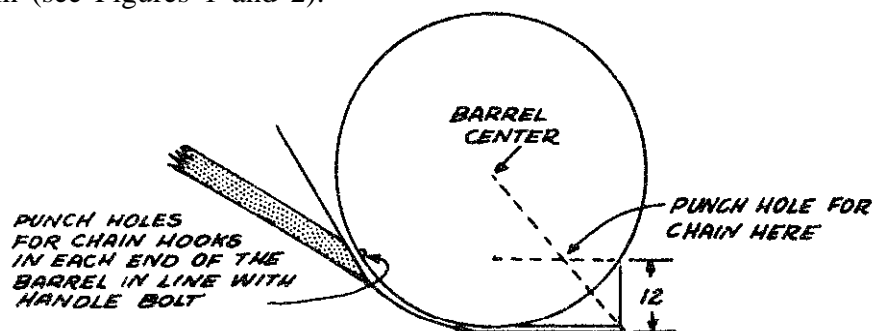

**FIGURE 8 INSTALLING BRACE WIRES AND ROPE**
**Install** the brace wires and rope (Figure 8):